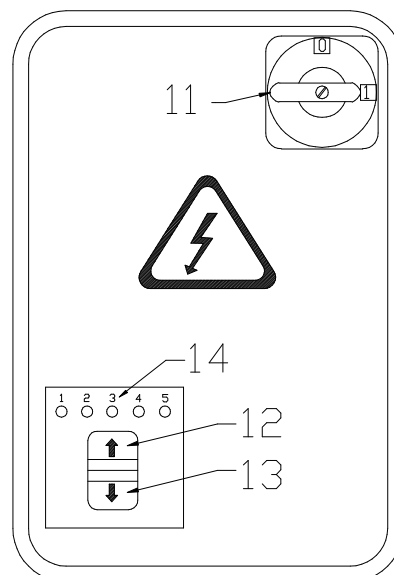

Fig.20
6. BEDIENING EN GEBRUIK (Fig.20)
(Fig.20 ref14)**